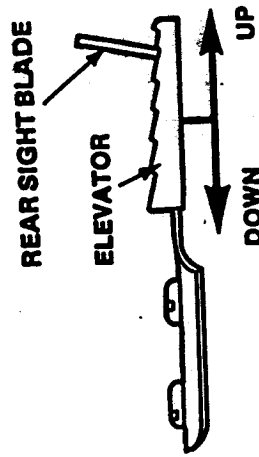

FIG. 10
3. If your gun shoots too low, lift the sight blade slightly with your thumb and index finger while at the same time moving the elevator backwards towards the stock. You may have to adjust this a few times for correct sighting. (Fig. 10)